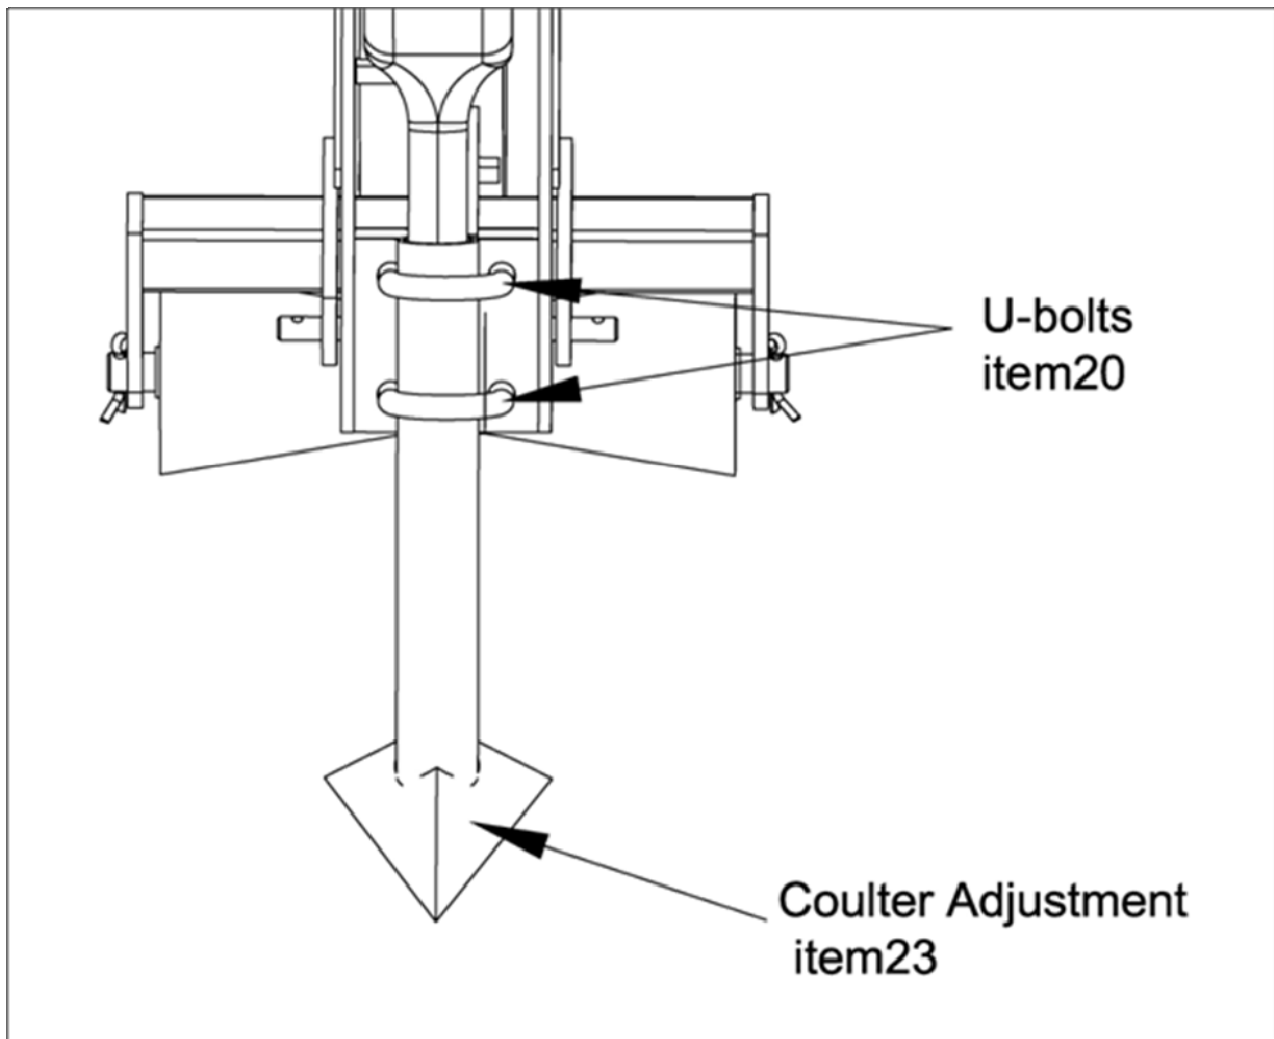

Figure 13
2. Lower planter to ground so that coulters sit on flat level surface. See figure 13 of next page.
1. To move coulters assembly down raise planter off of flat surface, loosen the u-Bolts item 20 and lower coulters assembly down. Retighten U-bolts. See figure 13. Repeat steps 1 through 3 again, setting planter seed depth.